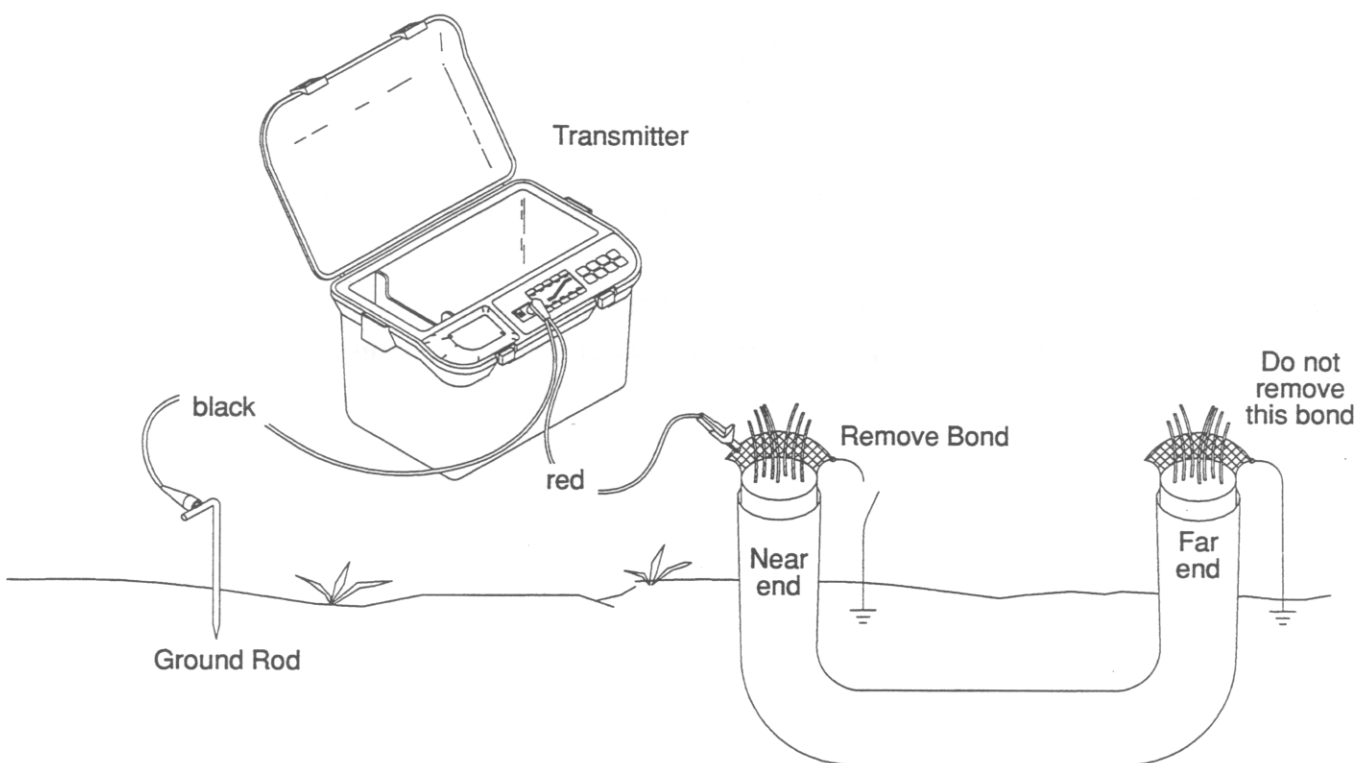

Fig. 3-2 Direct Connect Method for Tracing
1.7 The use of the direct connect method is probably the most accurate method of cable locating, since the tone signal is isolated to one cable (refer to Fig. 3-2). When the red lead of the Transmitter is connected to the cable, signal current (tone) travels down the cable. The return path to the Transmitter is through the ground. The circuit is completed by connecting the black lead to the ground stake. This ground connection is very important. Never ground to water pipe or other services in the area because the returning signal may create an out-of-phase condition that misleads the trace. Place the ground rod as far away from the cable path as possible (90 degrees from the suspected cable path). Remove the ground bonding at the near-end. The far-end should have a good ground. Use the Transmitter's Ω (ohms) mode to check ground resistance. If this resistance is greater than 1 k ohms, check the grounding connections. Frequency choices should be the lower frequencies, which goes farther down the cable.